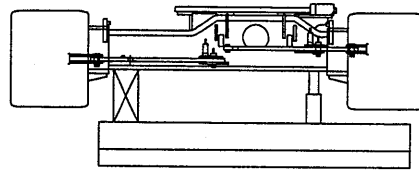

Fig. 11-12
- (5) Remove the jack on the wooden block side, and fit it to the specified positions on the axle (2 pos. on one side), and jack up the machine until the lower roller is slightly raised. (Fig. 11-12)